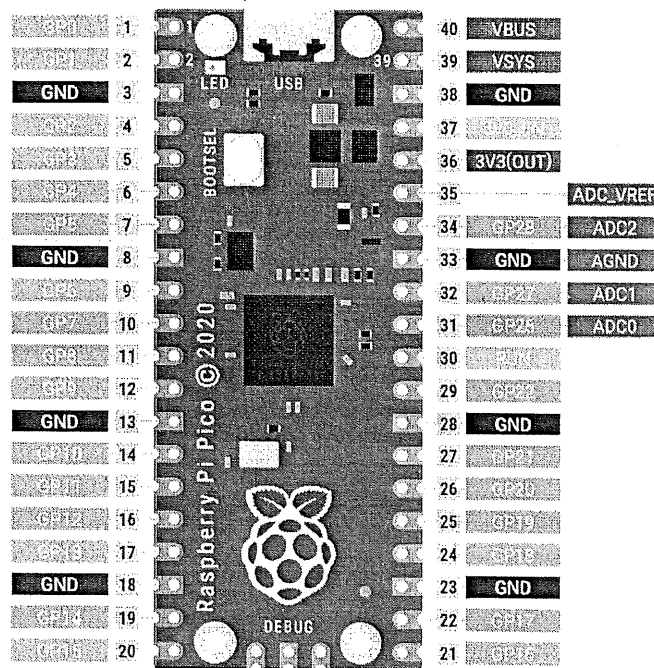
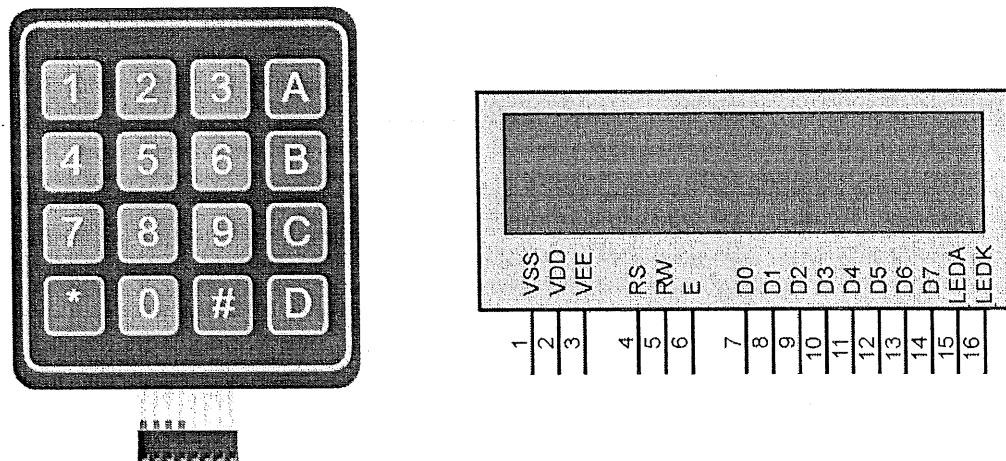

Figure 1: Pi Pico pin out
Figure 3: keypad and LCD
b) Create an application that will turn on **eight LEDs** according to the following cases and repeat each case **four (4)** times:
i. Produce schematic diagram for LED connection. Refer to figure 1 for the raspberry pi Pico pin out.
- i. Referring to the LCD and keypad in figure 3, produce the wiring diagram between these devices and the Pi Pico microcontroller. For Pi Pico pin out, refer to figure 1 in question 2. (8 marks)